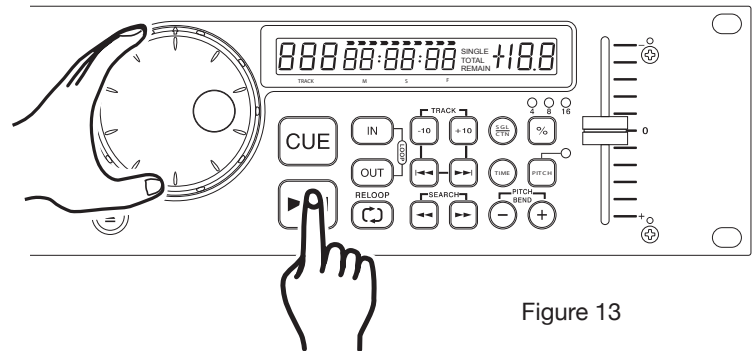

Figure 13
This feature allows you to scroll through a track to set a cue, or loop point. To use the scroll function you must first be in Pause Mode or Cue Mode. Once you are in Pause or Cue mode, use your finger tip or hand to turn the *JOG WHEEL* (2) to scroll through the track (figure 13). Turning the wheel in a clockwise direction will advance the frame search and turning the wheel in a counter-clockwise direction rewinds the frame search. When you use the *JOG WHEEL* (2) the monitor (headphone level) of a mixer allows you to here what you are scrolling through. Once you reach your desired starting point you can set a cue (starting) point by pressing the *PLAY/PAUSE BUTTON* (16) as in figure 13. Pressing the *CUE BUTTON* (17) will return the disc to the cue point just set.